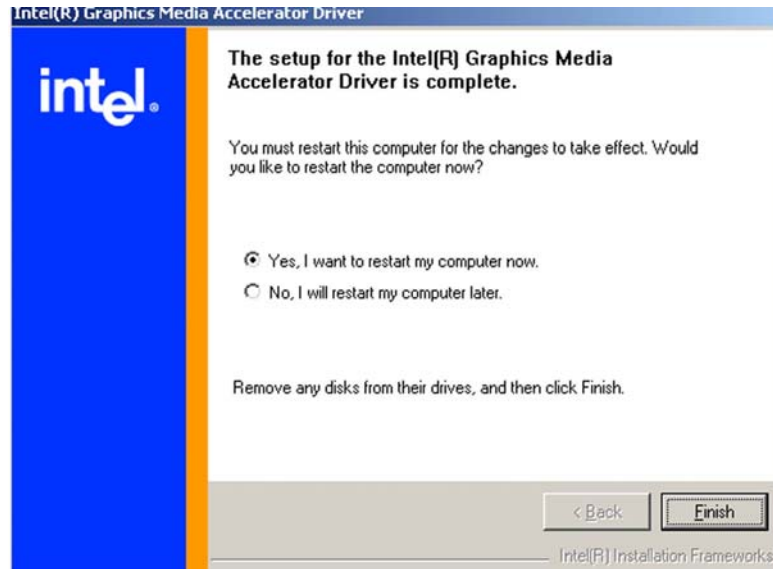

Figure 6-18: GMA Driver Installation Complete
Step 15: A confirmation screen shown in **Figure 6-18** appears.
Step 16: After selecting when to restart the computer in **Figure 6-18**, click **FINISH**.